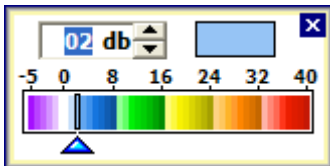

Figure 6.11 – Sensitivity Slider Popup
7. After you click on **Adjust Bins** or **Adjust All**, the **Sensitivity Slider** popup (see Figure 6.11) will appear. Click on the sensitivity up/down bumpers to change the sensitivity (in decibels). Negative values will lower the rejection threshold in order to increase sensitivity. Positive values will increase the rejection threshold in order to decrease sensitivity.